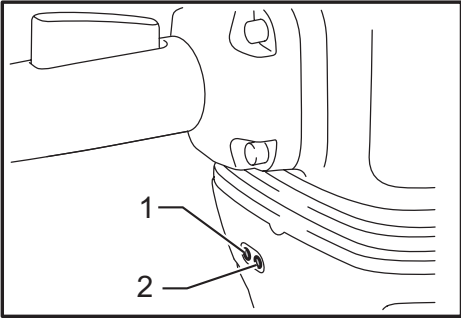

Fig.2
► **Fig.2:** 1. Power-ON indicator lamp (green)